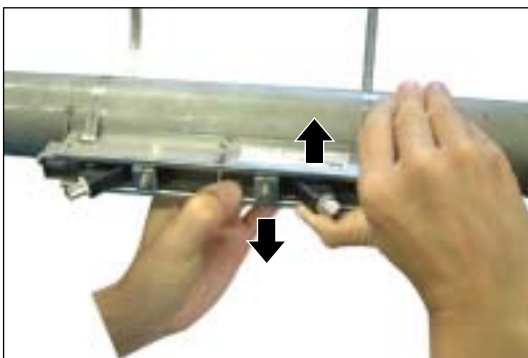

Fig. 3-20
- (2) By hand, hold the frame near the pressing fixture for a sensor unit to remove. Press the resin section which stands out of the frame of sensor unit just enough to open the frame a little (about 1 mm). At this time, the claws of sensor unit fixture are disengaged from the frame (Fig. 3-20).